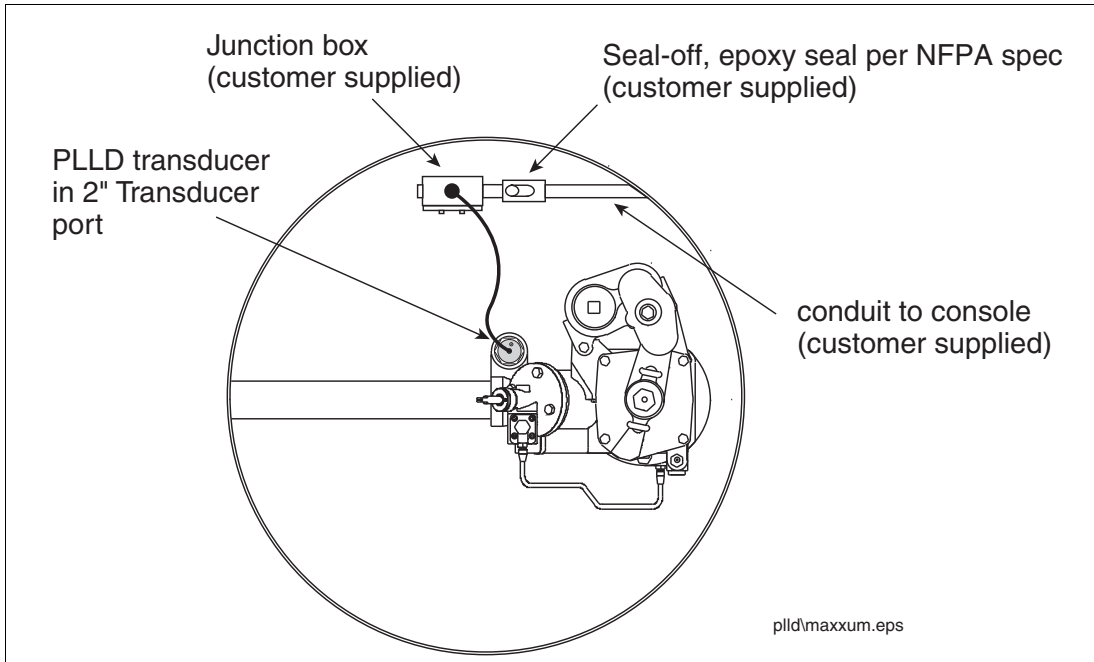

Figure 11. Example PLLD Installation In A Red Jacket Maxxum Big-Flo Pump
3. Remove the cap from the 2-inch Transducer port next to the 3-inch discharge port. Thread the PLLD transducer into the transducer port (see Figure 11).